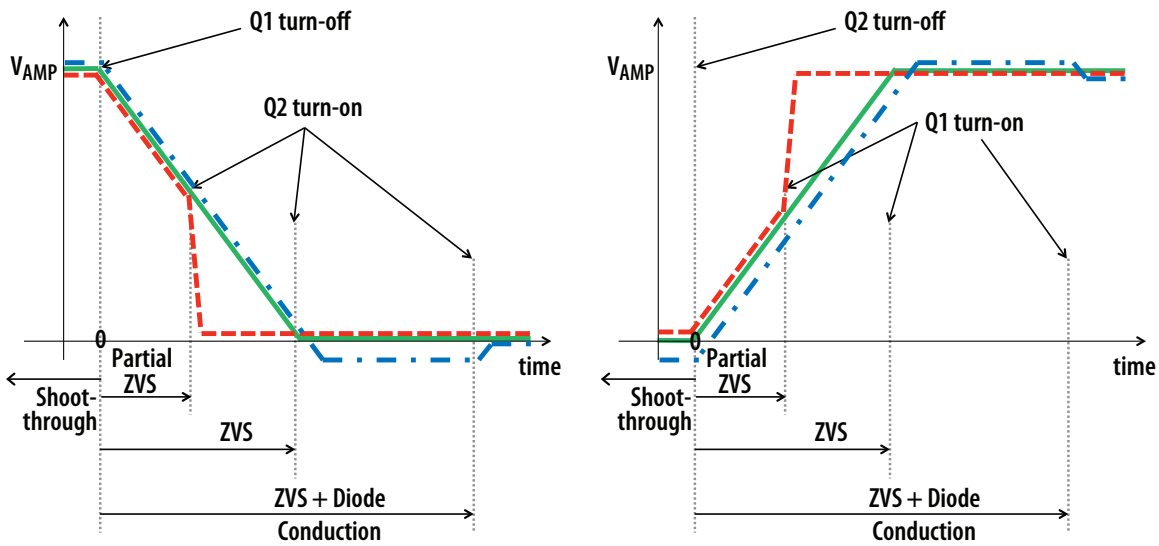

Figure 4: ZVS Timing Diagrams
Setting the correct time to establish ZVS transitions is critical to achieving high efficiency with the EPC9508 amplifier. This can be done by selecting the values for R74 and R75 respectively. This procedure is best performed using potentiometer P74 and P75 installed that is used to determine the fixed resistor values. The procedure is the same for both single ended and differential mode of operation. The timing MUST initial be set WITHOUT the source coil connected to the amplifier. The timing diagrams are given in Figure 4 and should be referenced when following this procedure. Only perform these steps if changes have been made to the board as it is shipped preset. The steps are:
6. While observing the oscilloscope adjust P74 for the rising edge of the waveform so achieve the green waveform of figure 4. Repeat for the falling edge of the waveform by adjusting P75.
NOTE. When measuring the high frequency content switch-node (Source Coil Voltage), care must be taken to avoid long ground leads. An oscilloscope probe connection (preferred method) has been built into the board to simplify the measurement of the Source Coil Voltage (J2 and J3 as shown in Figure 4).